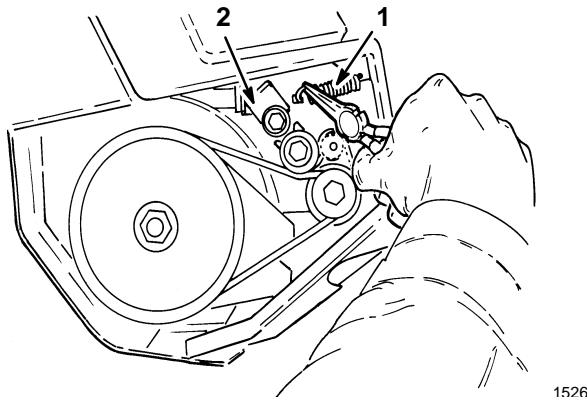

Figure 17
2. Remove idler spring from idler arm (Fig. 17).